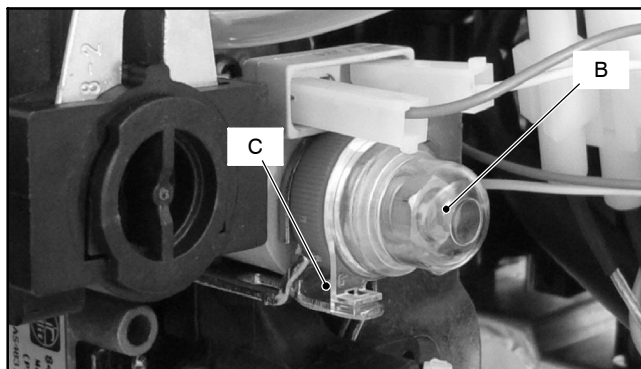

Fig. 3
- 5 Remove the protection cap *B* (Fig. 3) from the mechanical pressure adjustment components levering with a flat screwdriver in the slots *C*.